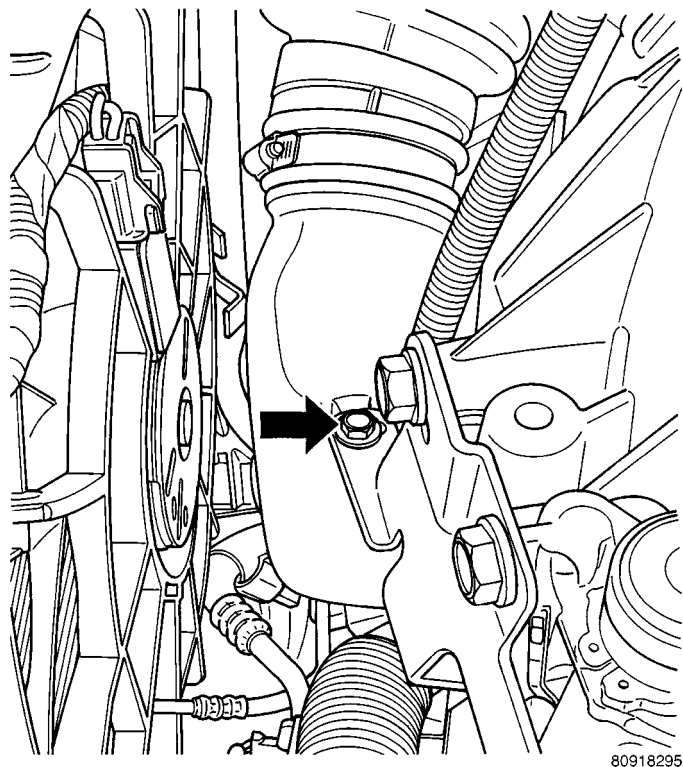
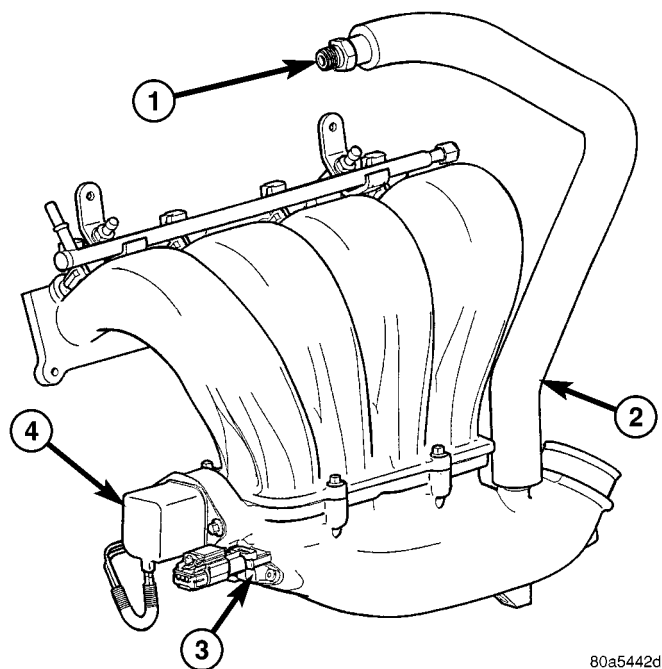

Fig. 136 Lower Manifold Support Bolt - (Under-body View)
Fig. 137 MAP, MTV & PCV Locations
(3) Disconnect fuel supply line quick connect at the fuel tube assembly. (Refer to 14 - FUEL SYSTEM/FUEL DELIVERY/QUICK CONNECT FITTING - STANDARD PROCEDURE)
(4) Disconnect fuel injector connector and harness from injectors and fuel rail.
(5) Disconnect PCV hose from manifold (Fig. 137).
(6) Remove the inlet air duct from intake manifold to throttle body.
(7) Remove bolt attaching lower intake manifold to support bracket (Fig. 136).
(8) Remove engine oil dipstick from housing.
(9) Disconnect electrical connectors from MAP sensor and MTV actuator (Fig. 137).
(10) Remove bolts attaching intake manifold to cylinder head.
(9) Install bolt securing lower manifold to bracket (Fig. 136). Tighten bolt to 28 N·m (250 in. lbs.).
(10) Connect MAP sensor and MTV actuator electrical connection (Fig. 137).
(11) Install engine oil dipstick
(12) Connect inlet air duct to manifold and throttle body.
(13) Connect PCV hose to manifold (Fig. 137).
(14) Connect fuel injector connectors and harness to fuel rail.
(15) Connect fuel supply line to fuel rail. (Refer to 14 - FUEL SYSTEM/FUEL DELIVERY/QUICK CONNECT FITTING - STANDARD PROCEDURE)
(16) Connect negative cable to battery.